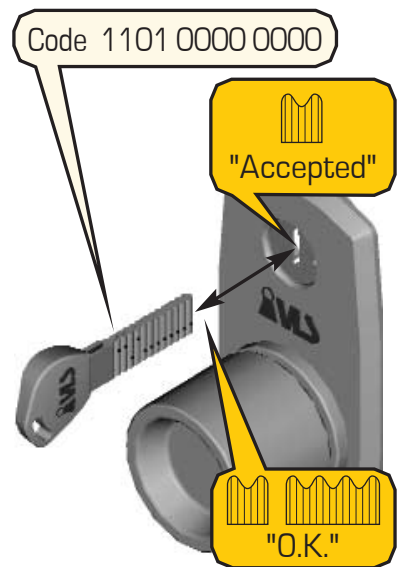

Figure 29 – Blocking Operation Code No. 2
2. In order to block the operation code No. 2, set the blocking code 1101 0000 0000 on the key (fig. 29).